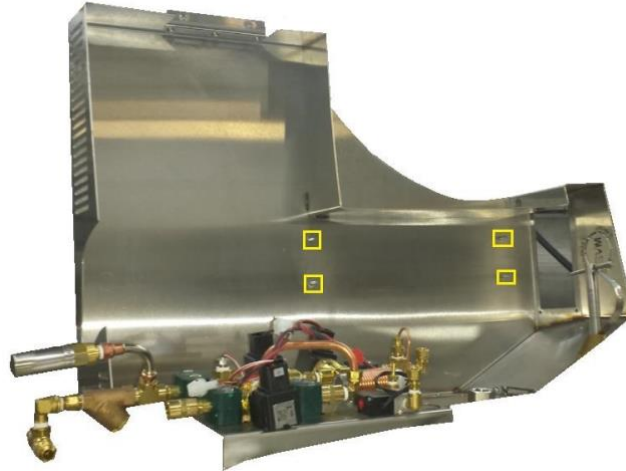

Figure 18 - Mounting Location for the HEco 1800 Series
3.3.1.2. Locate the mounting location for installing the battery backup. It will mount to the studs in Figure 18 below.